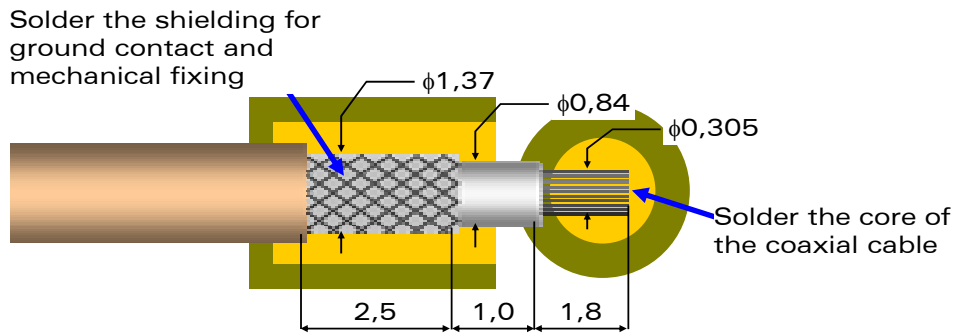

Figure 38: Antenna cable preparation
- Antenna cable preparation is shown in Figure 38.